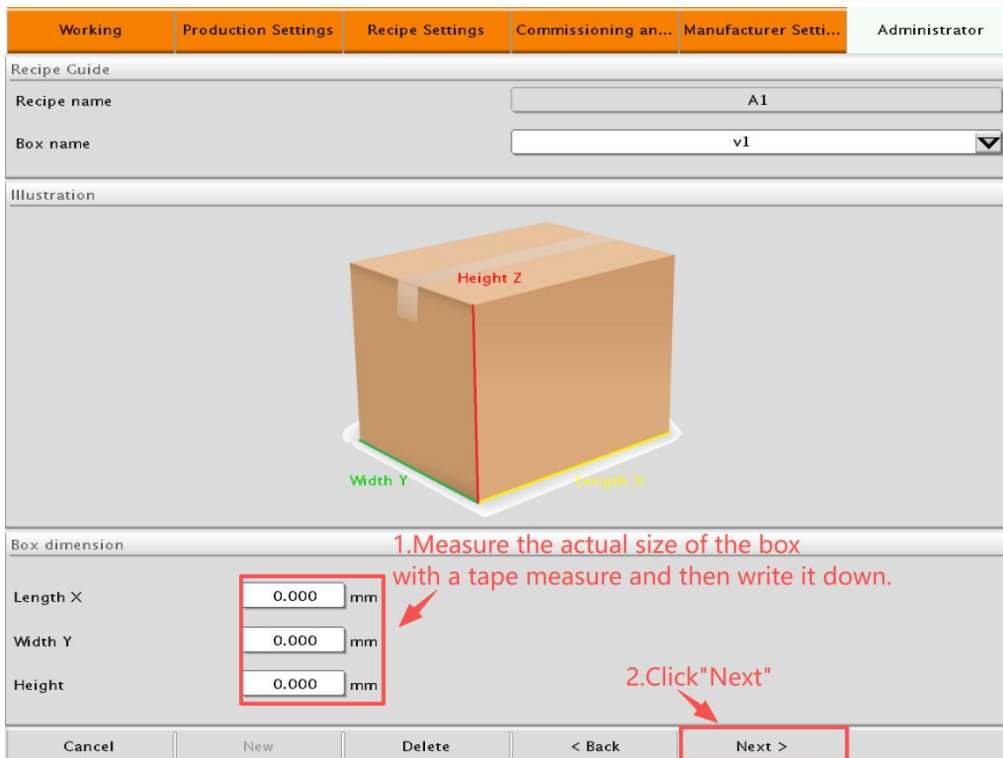

Figure 4-8
In the product parameters, enter the box size: length (X), width (Y), and height [Figure 4-8]. After entering the box size, click "Next" to proceed to the interface